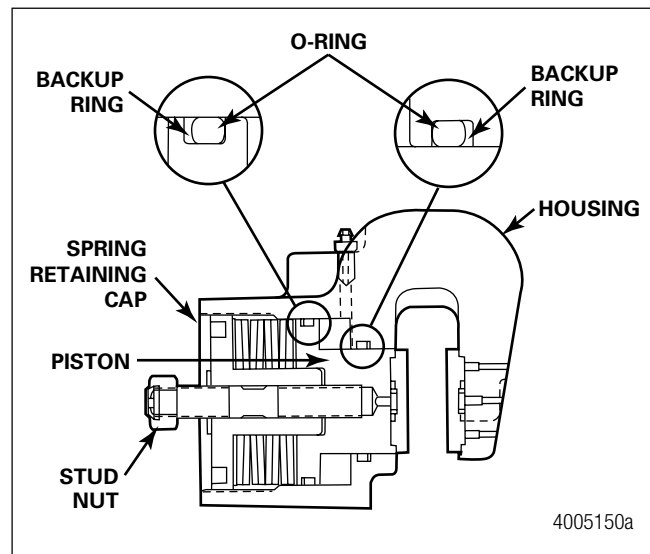

Figure 5.1
3. Install a new O-ring and a new backup ring into both the piston groove and the housing groove so that the curved side, if applicable, of the backup ring is against each O-ring. On the piston, the O-ring goes closest to the disc. In the housing, the O-ring goes closest to the spring cap. Figure 5.1.
6. If necessary, install the stud nuts at the end of the studs and fasten them in place with the cotter pins. Figure 5.1.